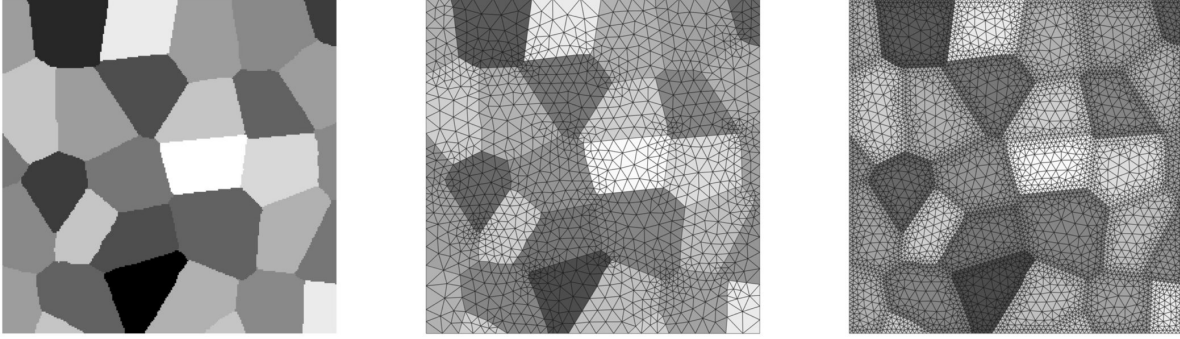

Figure 12: Refine mesh near polygonal boundary
- *Size at Boundary*: Element size at constraint edges (i.e., polygonal boundary). This parameter is introduced by me to refine mesh near polygonal boundary (Figure 12), which maybe useful in some cases. If you don't need to refine mesh near boundary, you can set *Size at Boundary* to a value < 0.05 or ≥ 500 .